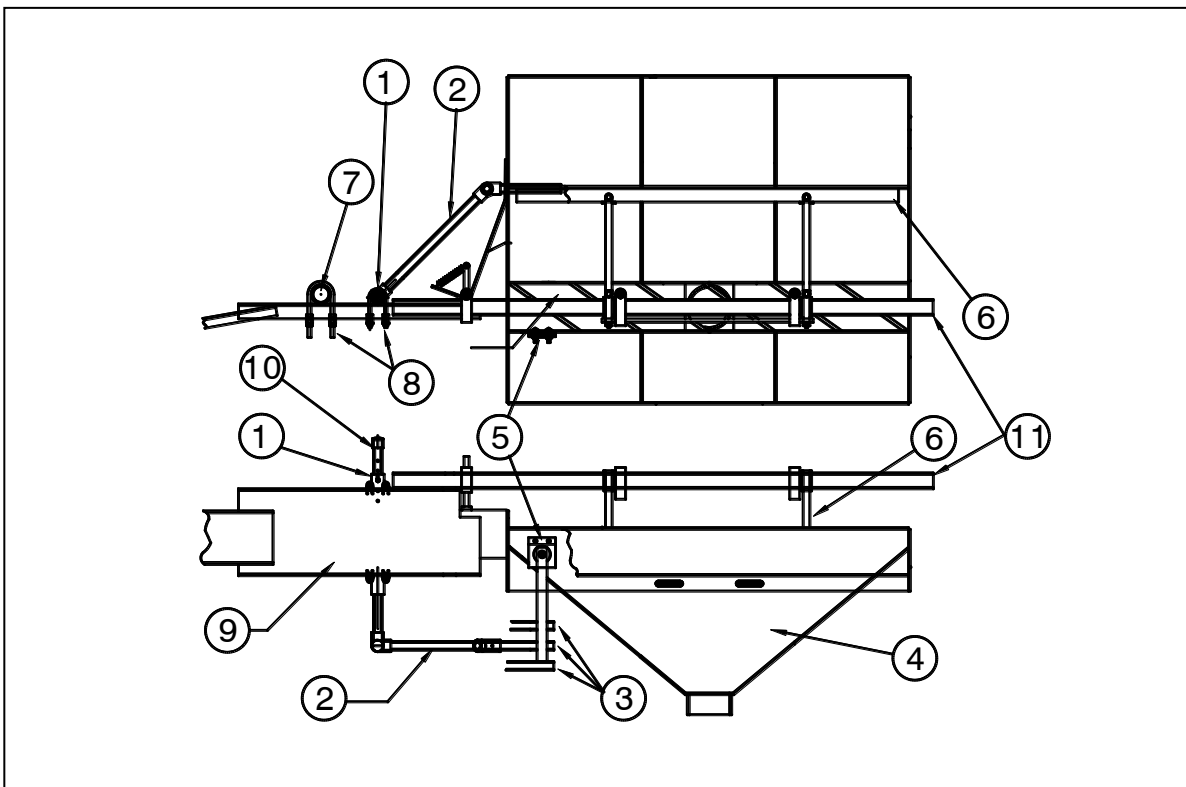

Figure 2.17b
5. Mount the PVC actuator arm support to the skimmer arm, as shown on the Flush Valve Erection drawing and Figure 2.17b, using the specified U-bolts and channel clamps. Check that the bottom of the notch in the arm housing is at the same elevation as the centerline of the skimmer pipe.